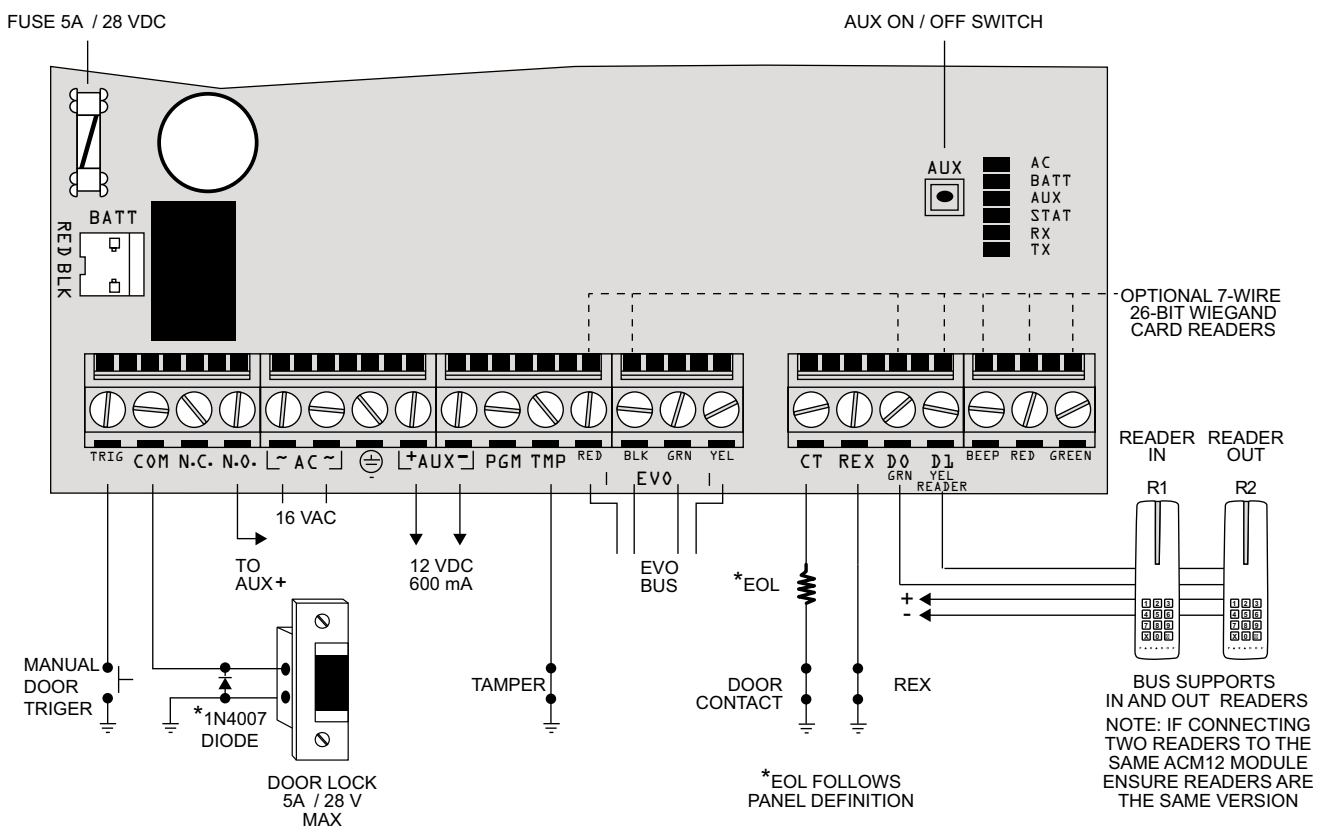

Figure 1
## Installation (Figure 1)
**Unlock Device Diode:** When connecting a locking device, it is recommended to connect diode 1N4007 as per Figure 1, to keep the relay contacts reliability.